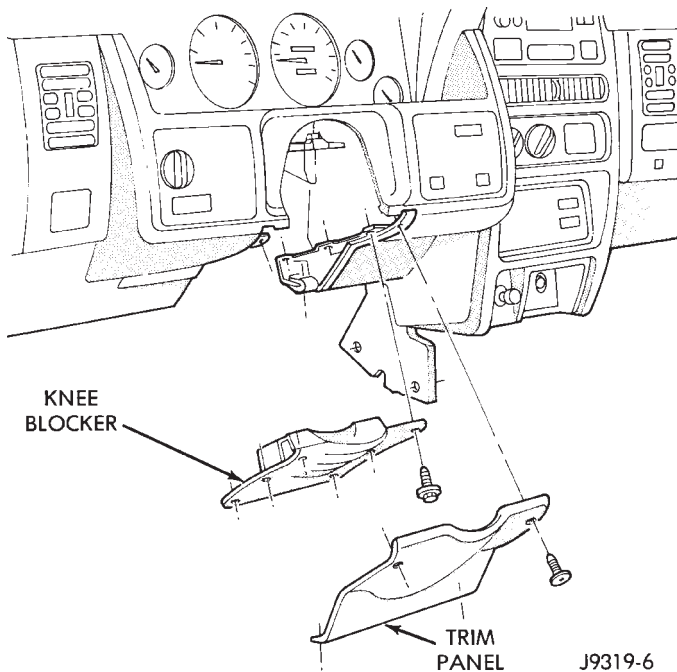
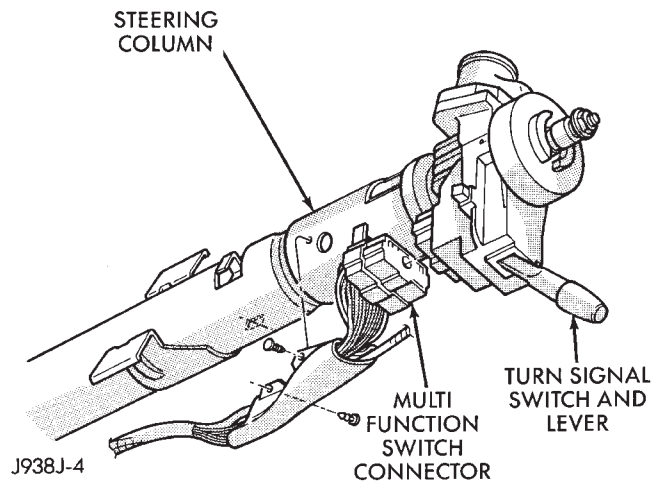

Fig. 4 Steering Column Trim And Knee Blocker
Fig. 5 Multi-Function Switch Connector
- (1) Disconnect negative cable from the battery.
- (2) Remove tilt lever (tilt column only).
- (3) Remove both upper and lower steering column covers. Requires removal of 3 screws (Torx T-20).
- (4) Remove 4 screws holding steering column trim panel (Fig. 4).
- (5) Remove 6 screws holding knee blocker.
- (6) Remove steering column retaining nuts.
- (7) Lower steering column to gain access to rear of multi-function switch.
- (8) Remove switch connector (Figs. 5 and 6).